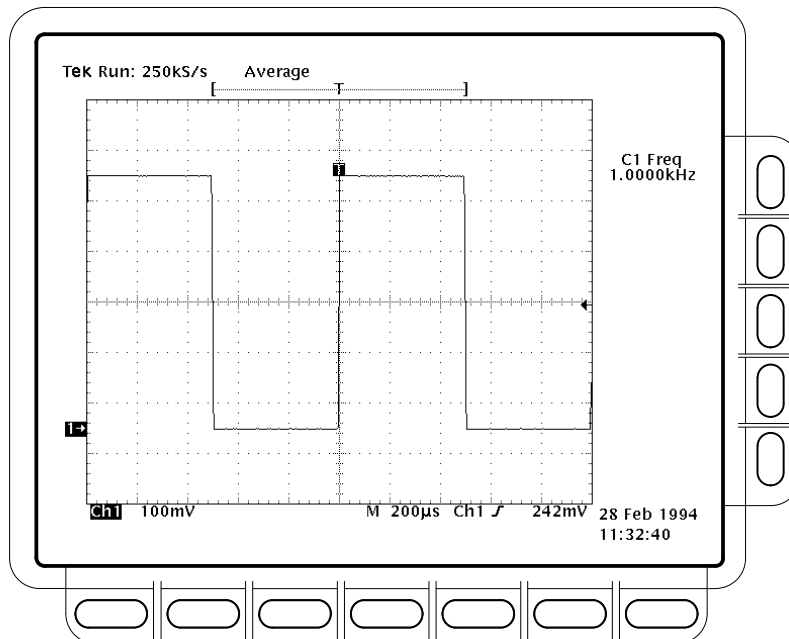

Figure 1–23: Measurement of Probe Compensator Frequency
- CHECK that the **CH 1 Freq** readout is within 950 Hz to 1.050 kHz, inclusive. See Figure 1–23.